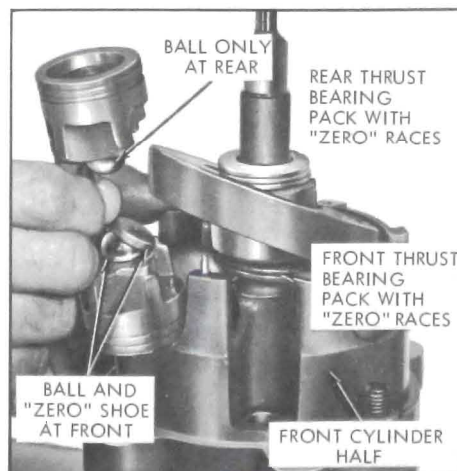

Figure 11-74—Installing Piston Assembly in Cylinder for Gauging
9. Rotate shaft and swash plate until high point of swash plate is over piston cylinder bore, which had been identified as No. 1. Insert front end of No. 1 piston (notched end) in cylinder bore (toward the front of compressor) and at the same time, place front ball and shoe and rear ball only over swash plate. See Figure 11-74.